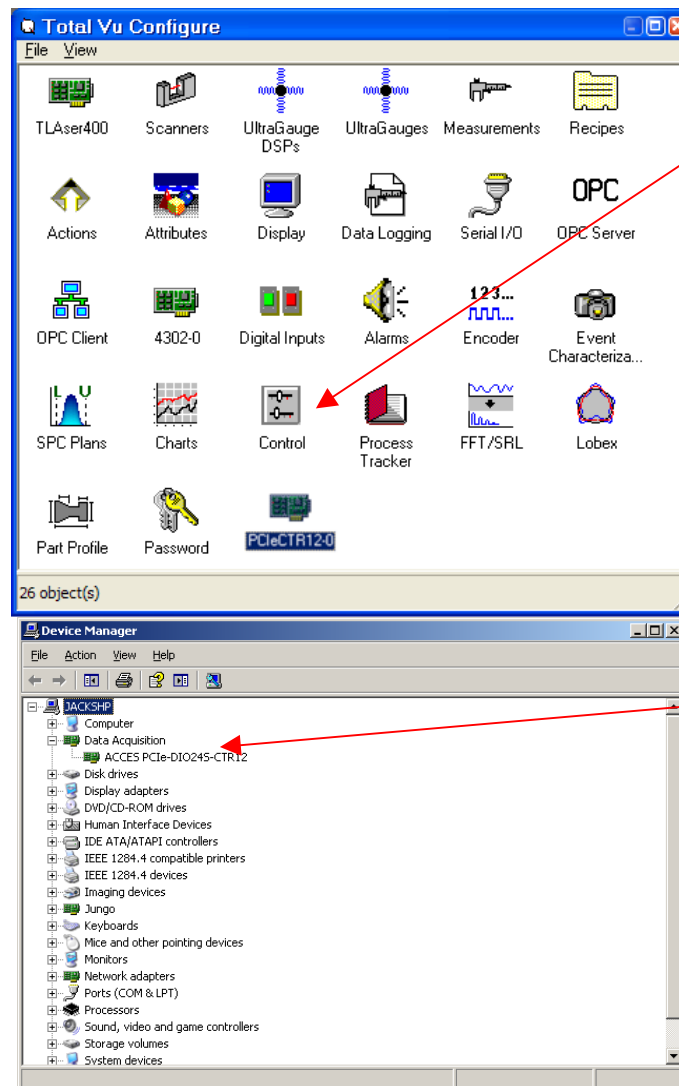
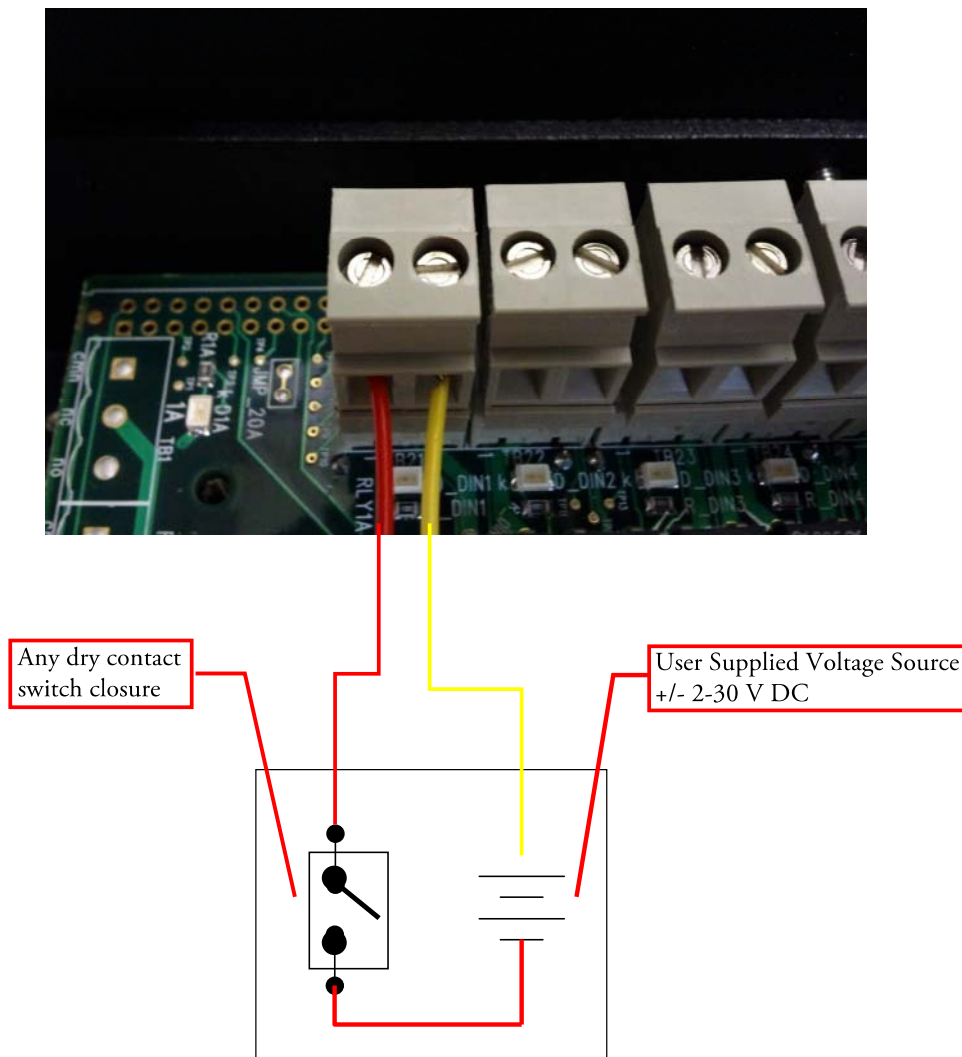

Figure 11. Total Vu Full Configuration window (top) and Windows Device Manager.
Figure 12. PTRB with connection to DIN0 Connected to Voltage source and dry contact switch closure.
- 1.1 With a screwdriver, turn the screw shown in Figure 11 counterclockwise until opening below for the wire is all the way open.
The following figures illustrate the second method of wiring a voltage source and a dry contact switch in series between your two signal wires first for the PTRB (Figure 11) and then for the PDIS08 (Figure 12).